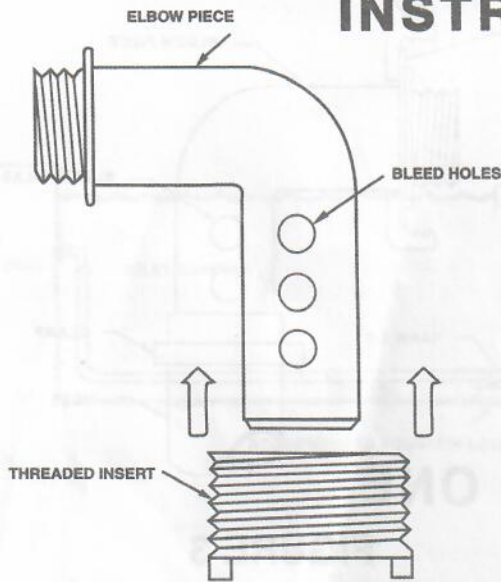

FIGURE 4
2. Slide the threaded insert (6) over the Elbow Piece (7) as shown in Fig. 4. The threaded insert (6) is a tight fit around the turn in the Elbow Piece (7), therefore, slight pressure is needed. This is your inlet adapter.
3. Refer to Figure 1. Uncoil the hose (4) and remove all twists. Using clamps (16), clamp one end of the hose to the back side of the fountainhead (1 or 3) and the other end to the inlet adapter from step 2. Cover one set of bleed holes with the hose (Fig. 4). To tighten clamp, grasp "tabs" between thumb and forefinger and squeeze. Tighten securely with a pair of pliers. To open the clamp, grip one "tab" of the clamp with pliers and twist loose.
4. Using the tie wrap (15), LOOSELY attach the anchor (5) to the hose (4). The anchor (5) should be attached to the hose (4) at a point as deep as the water plus approximately two feet. You will have to estimate what the water depth is where you want the fountain and add two feet. **CAUTION: DO NOT CONSTRICT THE HOSE BY TIGHTENING THE TIE WRAP (15) TOO TIGHT.**
6. Place the fountain assembly into the pool. Position the fountain in the desired location being careful not to crimp the hose (4)